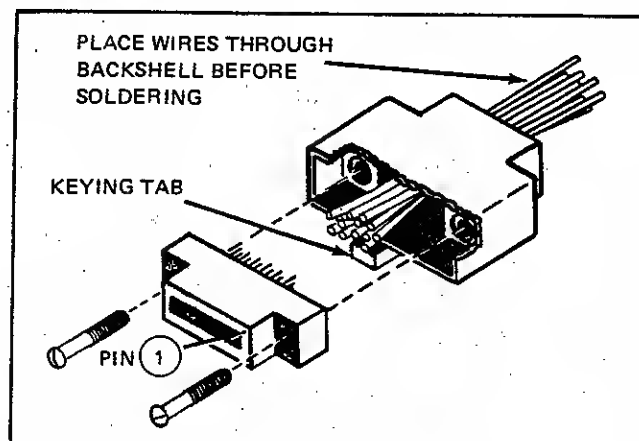

Figure 602-2. DOU Connector
2. Slide cable wires through the DOU connector backshell (hood) as shown in Figure 602-2.
8. Position the sleeving over the solder joints, and install the connector backshell (hood) and strain relief as shown in Figure 602-2.